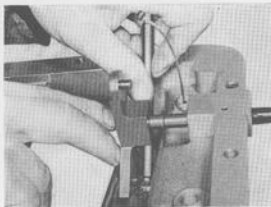
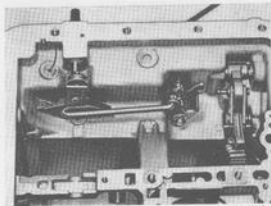

Fig. 4-105. Locating manual valve lever on detent ball spring
Fig. 4-106. Parking pawl and linkage installed
2. Assemble the shaft, parking pawl and levers in the reverse order to dismantling. Make sure that the springs for the levers are correctly fitted, see Fig. 4-106. Fitting the detent ball is facilitated by pressing down the ball using a short length of tubing as shown in Fig. 4-105.